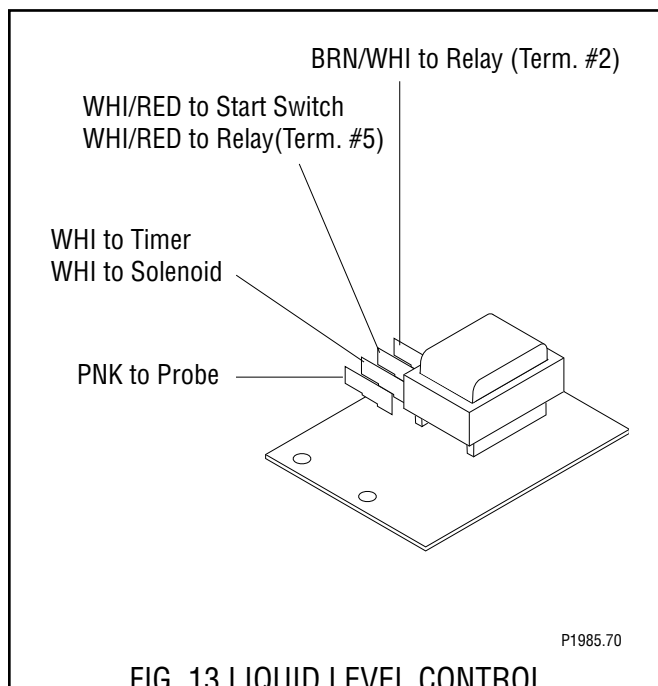

FIG. 13 LIQUID LEVEL CONTROL BOARD TERMINALS
4. Refer to FIG. 13 when reconnecting the wires.